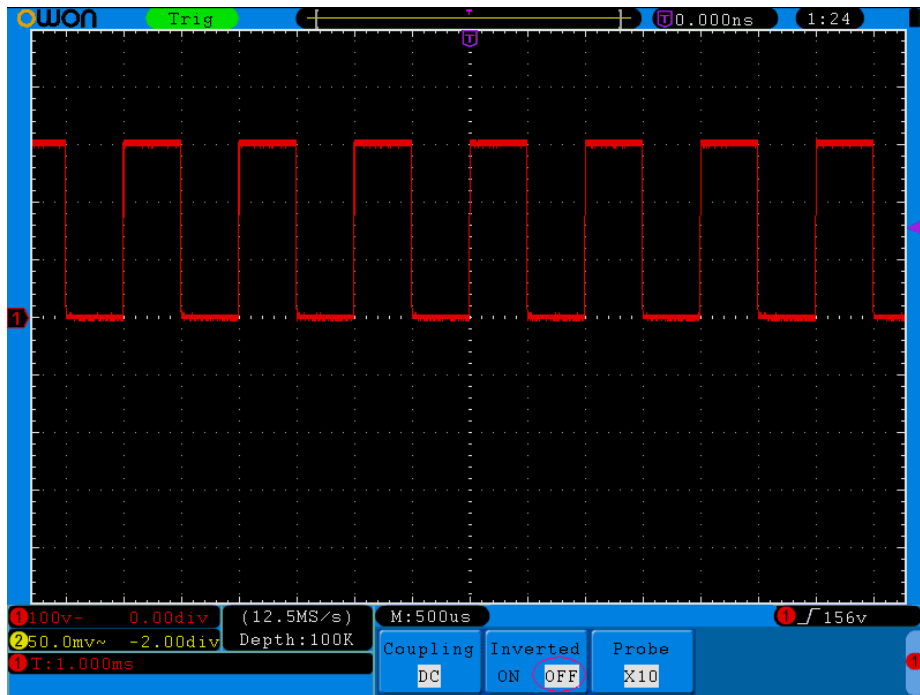

Figure 5-4 Original Waveform
- (3) Press the **H2** menu selection button again and select **OFF** for **Inverted** item. The waveform goes back to its original one as it is shown in *Figure 5-4*.